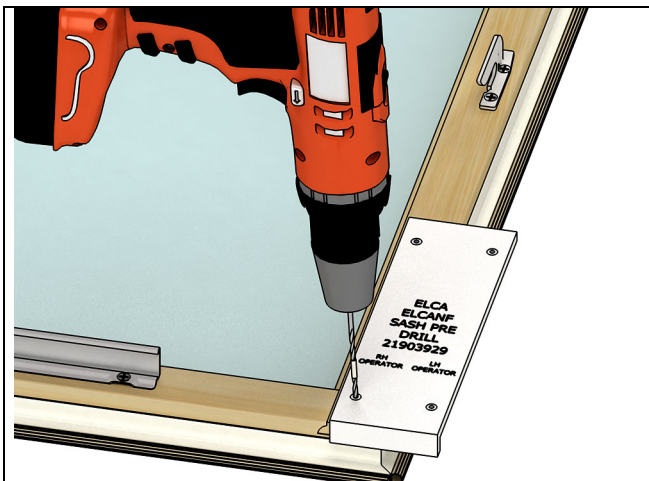

Figure 4 Firmly hold sash jig on corner of sash.
13. As shown in Figure 4, hold the sash jig on the lower, locking-side corner of the sash and drill two 7/64" holes. Drill through the wood hoop and first wall of Ultrex.